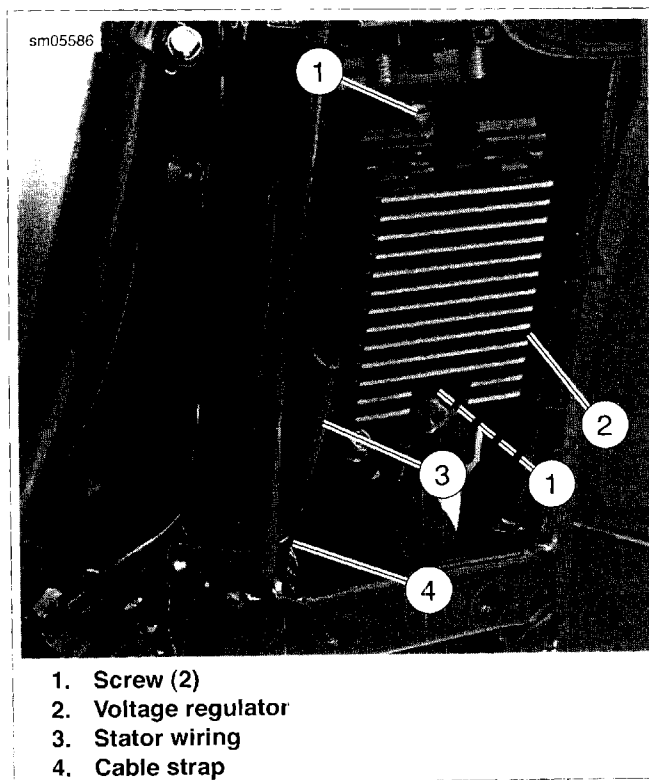

Figure 6-7. Stator Wire Routing: XR Models
4. See Figure 6-7. Remove screws (1) from locations at top and bottom of voltage regulator (2). Remove regulator from vehicle, carefully threading harnesses through opening in regulator mounting bracket.